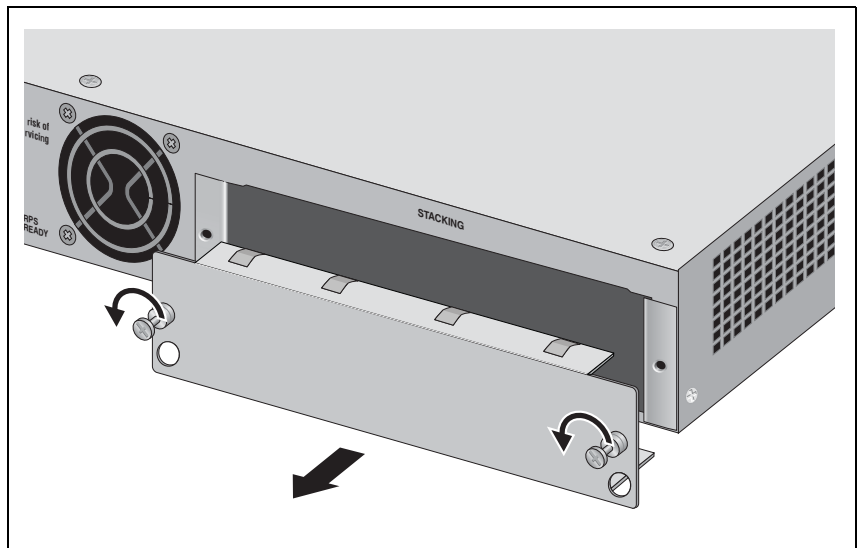

Figure 41. Removing the Blank Panel from the Expansion Slot
2. Remove the blank panel or AT-LBM module from the expansion slot on the rear panel of the switch by loosening the two captive screws on the panel with a cross-head screwdriver, as shown in Figure 41.